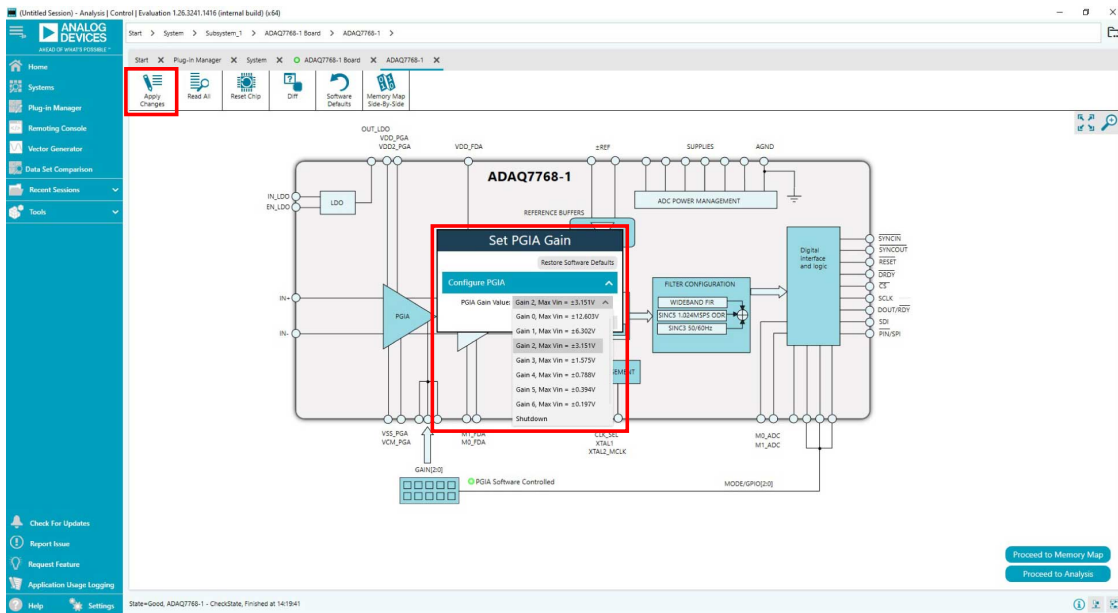

Figure 20. Input Range Selection Menu
- By default, the ACE software uses the GPIO to control the input range. Configure the programmable-gain instrumentation amplifier (PGA) gain by clicking the PGA icon in the **Chip View** of the ACE software to select the input ranges. Once done, click **Apply Changes** in the upper left corner for the PGA gain to take effect (Figure 20).
- See Table 5 for the proper switch settings. Note that when choosing the manual input range control option, adjust the **PGA Gain Value** in the ACE software accordingly (Figure 20) for it to display the correct measurement result.